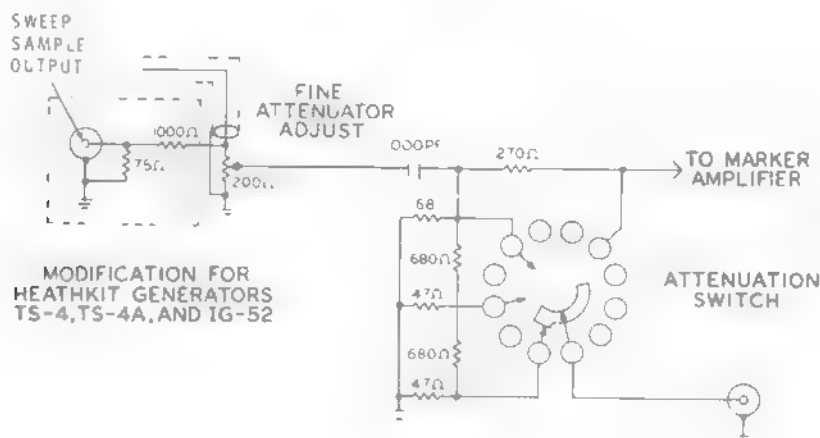

Figure 27
- () Refer to Figure 27 to find where the lug for the "high side" of the attenuator control is located.
- () Connect a 1000 Ω (brown-black-red) resistor from the "high side" lug of the attenuator control (S-1) to the center lug of the phono socket (NS).
- () Connect a 75 Ω (violet-green-black) resistor from the center lug of the phono socket (S-2) to the ground lug of the phono socket (NS).